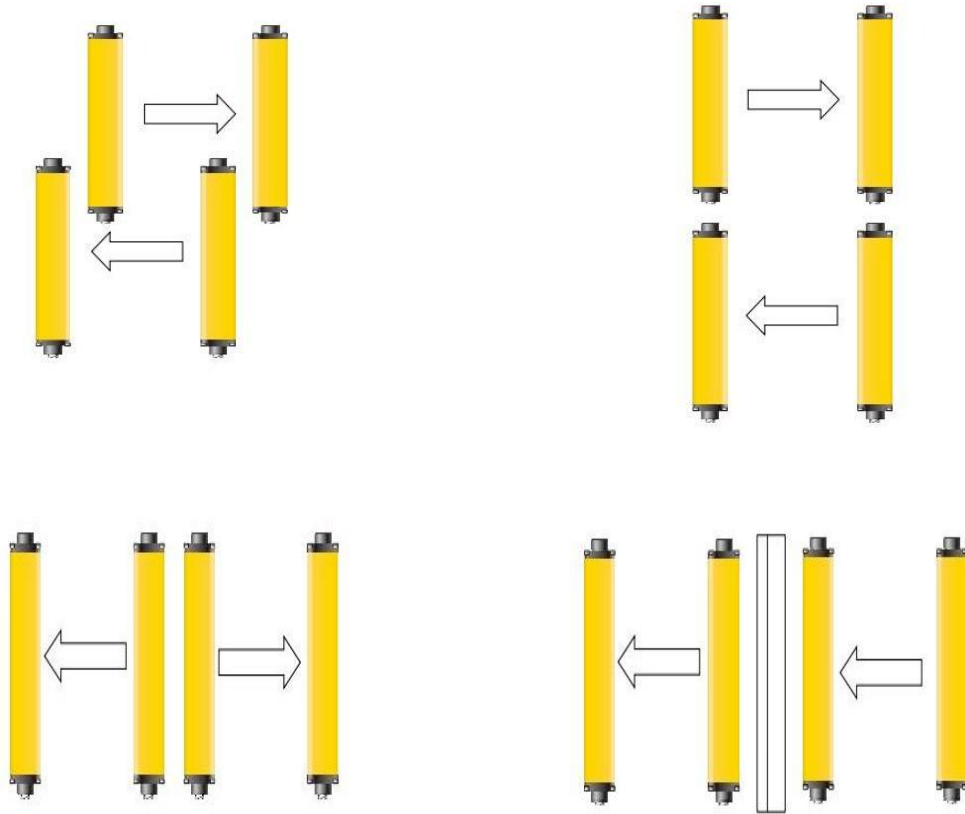

Figure 8-5
2/ For example, the infrared rays emitted by the transmitting unit of system ① may affect the receiving unit of system ②. This may interfere with the protective function of system ②, meaning that the operators are in danger. Therefore, it is necessary to refer to Figure 8-5 for installation.